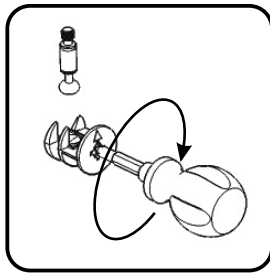

Figure 3
Attach Front Upright (K) to Middle Panel (C) and Front Upright (J) to Middle Panel (D) with Cam Locks. (See Figure 3)